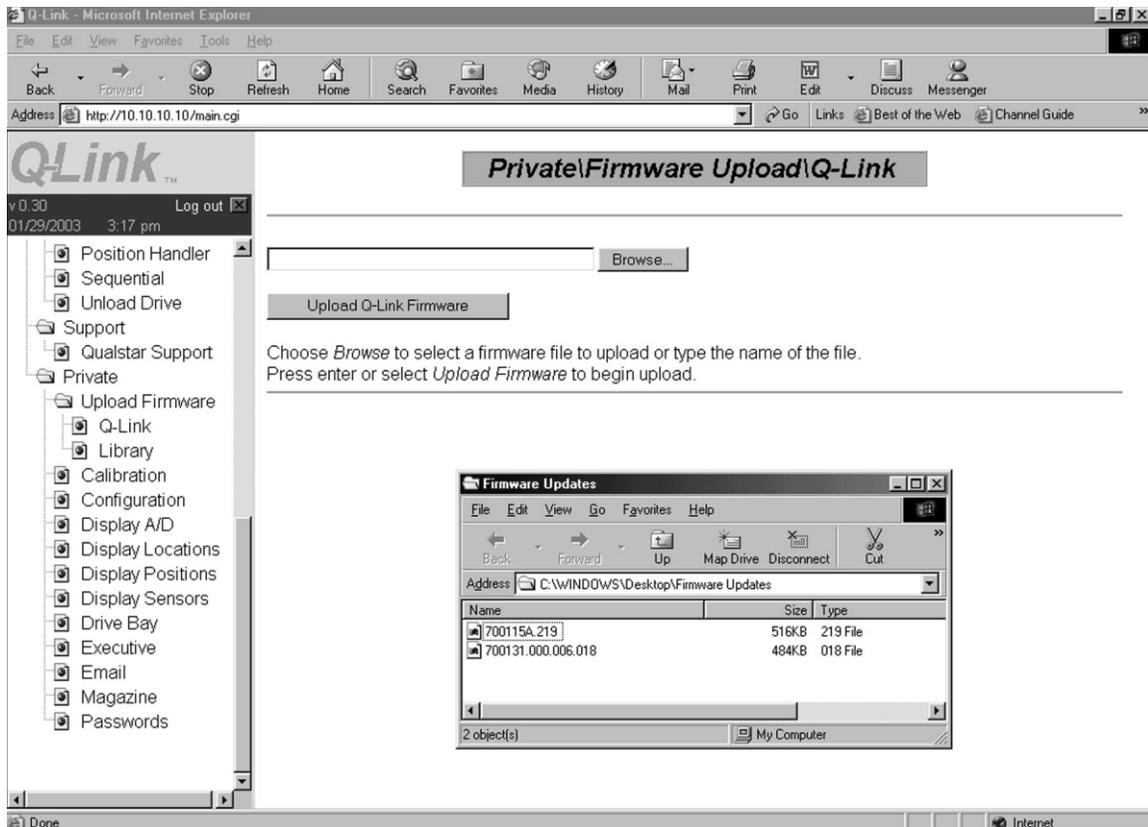

Figure 11-7 Sample of the Q-Link Firmware Upload Screen
1. Access the firmware file by either clicking on the Browse button or typing the file path to the firmware file. See Figure 11-7.